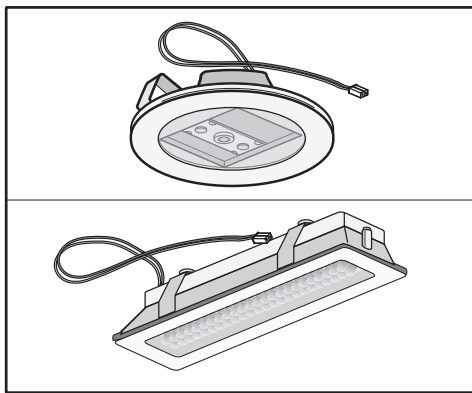

Fig.7
4.1 Replacing LED lamps (Fig.7):